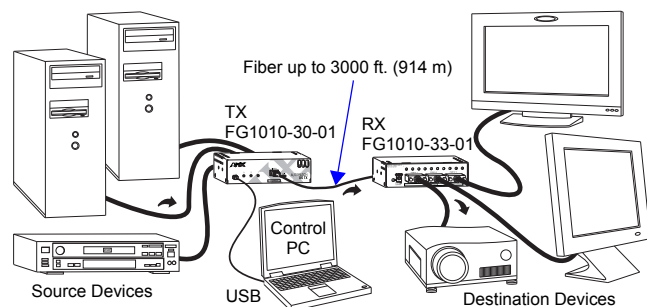

FIG. 2 Typical system setup (USB connection to PC for setup only)
DG (Digital Generation) RGBHV MTP® Fiber Transmitter (TX) and Receiver (RX) Modules work together (FIG. 2) or in conjunction with fiber boards on an AMX AutoPatch Distribution Matrix. This guide contains complete information for stand-alone use. For use with a distribution matrix, see the distribution matrix's instruction manual on the AMX AutoPatch CD or at www.amx.com.